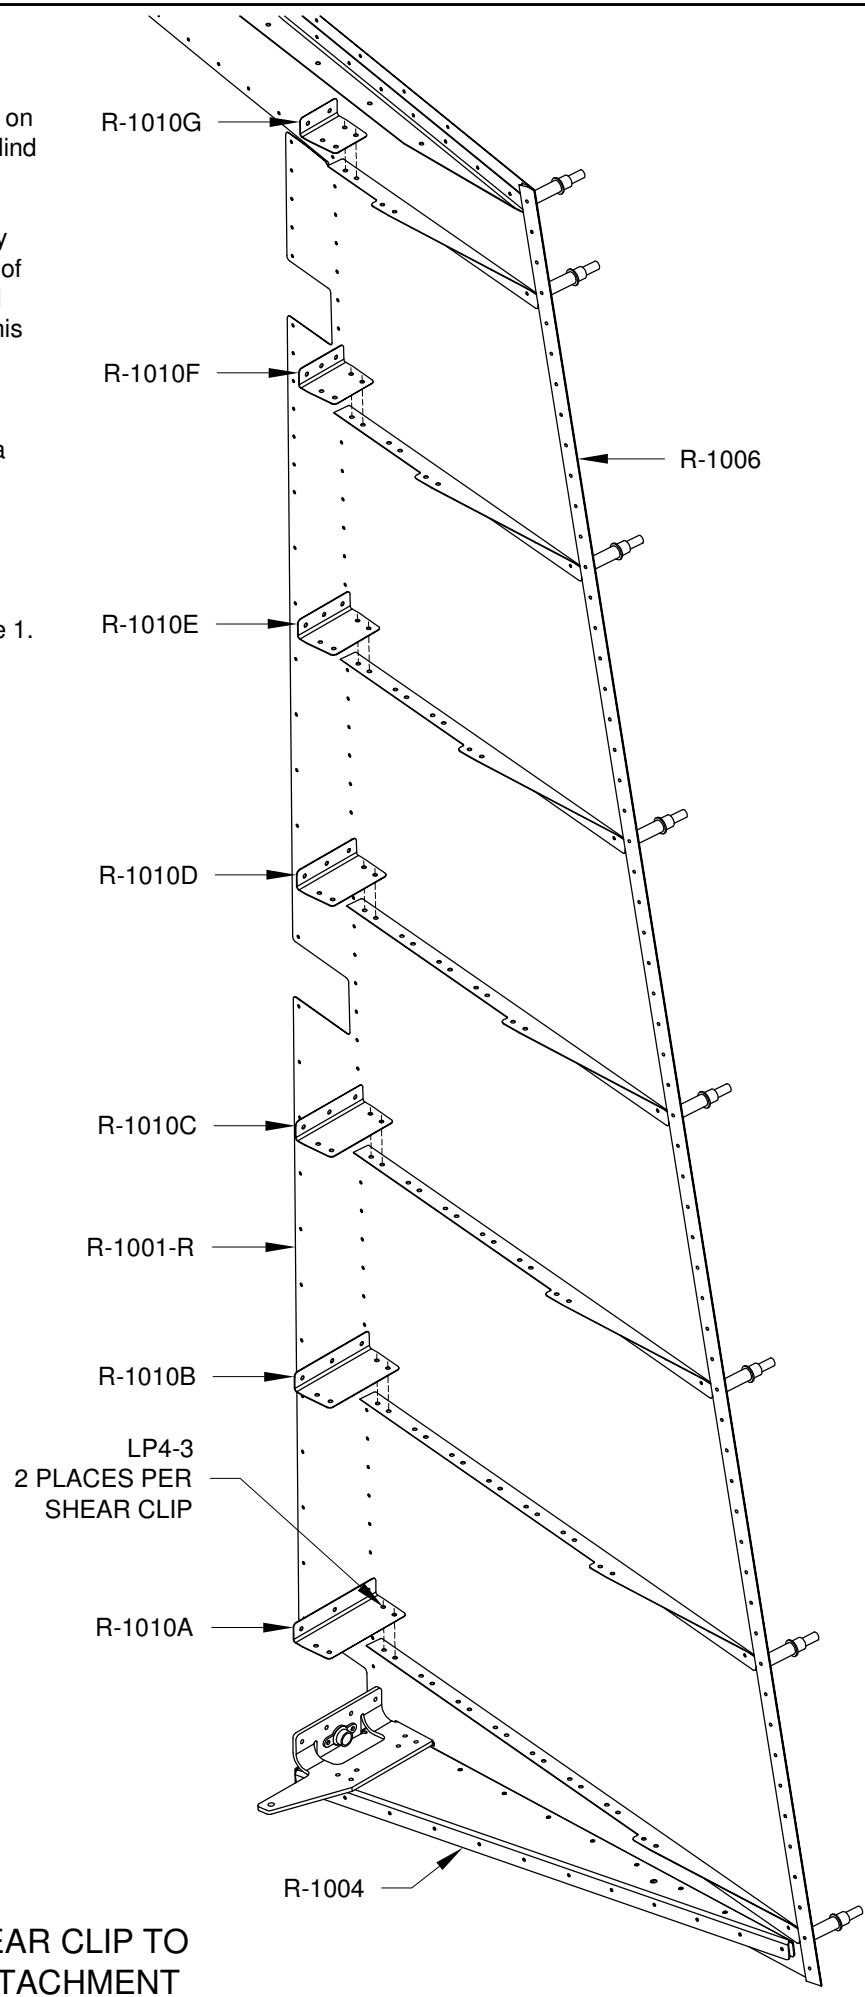

FIGURE 1: SHEAR CLIP TO STIFFENER ATTACHMENT
Cleco the trailing edge to the R-1001-R skin as shown in Figure 1.
Step 3: Position the R-1001-L Skin on the R-1001-R Skin as shown in Figure 2. Make sure the R-1015A-L Stiffener is positioned correctly relative to the R-1015A-R Stiffener and the R-1010A Shear Clip (see Page 7-5, Figure 1), then cleco the bottom of the skin to the R-1004 Bottom Rib. Capture the left skin with the bottom cleco in the trailing edge.